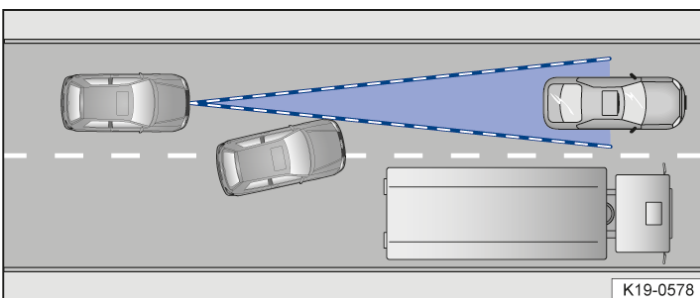

Fig. 4 Vehicle changes lane.
- Vehicles that change into your lane directly in front of your vehicle → *Fig. 4*.